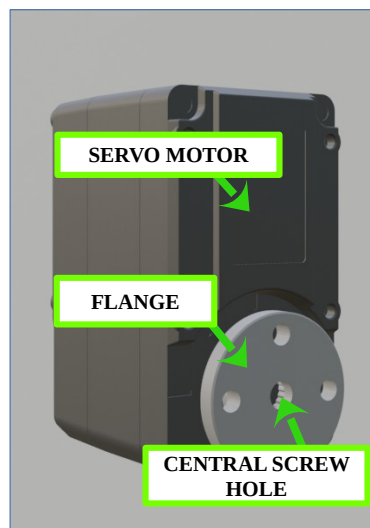

Figure 5.3: Installing the Flange on the Servo Motor
See Figure 5.3.
1. Install the Thumb Base on the TRS flange (4 M3 countersunk-head screws with hex socket, 16 mm long) as shown in figure 5.3.
1. remove the central screw of the rotating flange to allow insertion into the slot. (see figure 5.3, which shows the central screw)